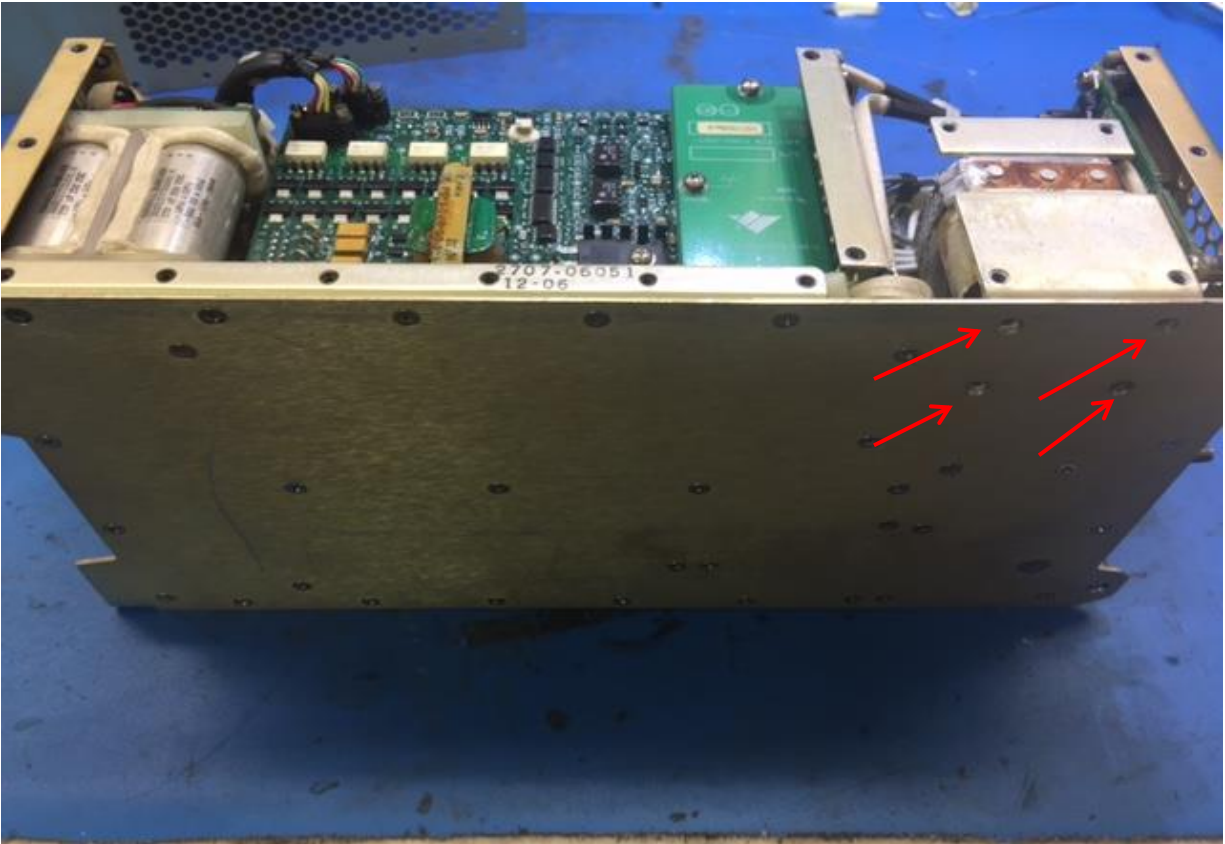

Figure 3
3. Disconnect the transformer from the base plate by removing (4) screws (24693-C2) from the base of the unit. (Figure 3, Figure 4).